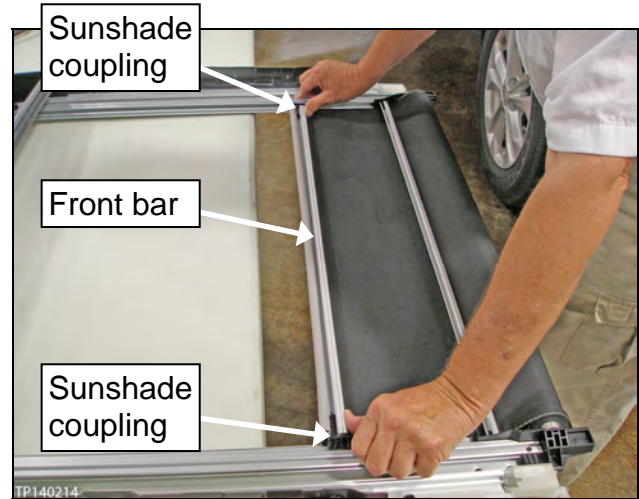

Figure 2
- a. Unsnap the front bar from both sunshade couplings by pressing forward (see Figure 2).